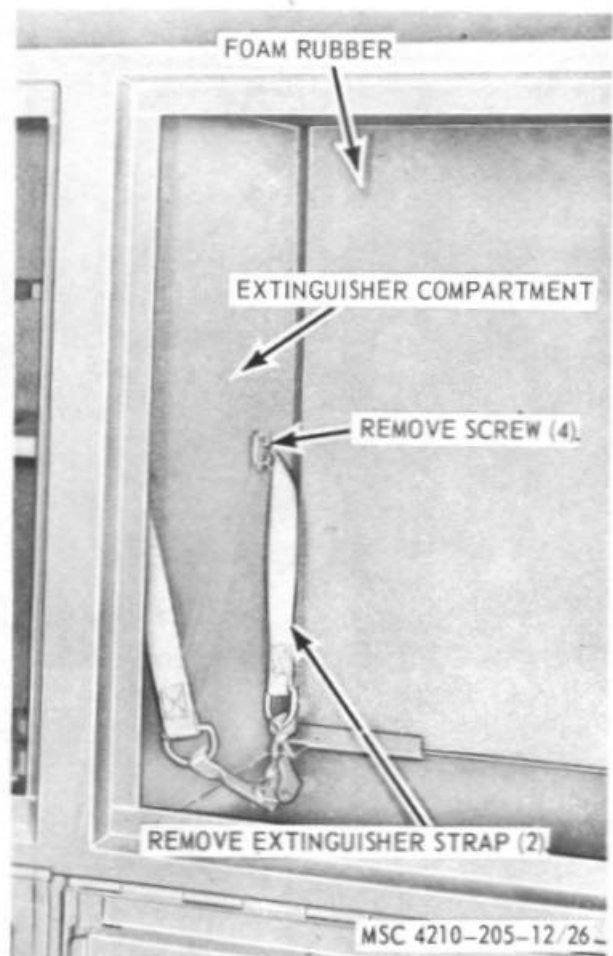

Figure 26. Extinguisher compartment accessories, removal and installation
a. *Removal.* Refer to figure 26, and remove the extinguisher compartment accessories from the compartment.
- (1) Clean all parts with an approved cleaning solvent, and dry thoroughly.
- (2) Inspect all parts for damaged or defective condition.
- (3) Replace or repair damaged or defective parts as necessary.
c. *Installation.* Refer to figure 26, and install the extinguisher compartment accessories on the compartment.